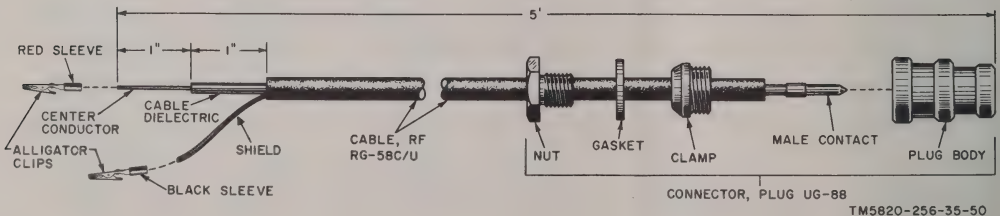

Figure 4-4. Fabrication of special test cable.
#### 4-8. Fabrication of Test Cable (fig. 4-4)
a. To facilitate the proper attachment of the UG-88/U connector to the RG-58C/U cable (fig. 4-4), observe the following dimensions: